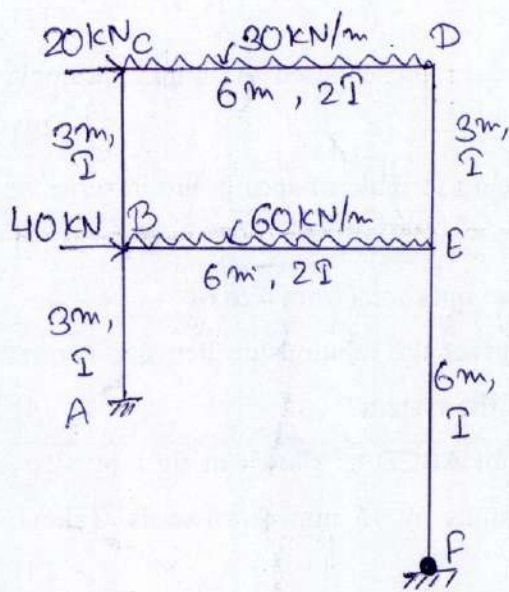

Fig. 2.
- Ques 6: Calculate the distribution factor for the given fig. 2. [4]